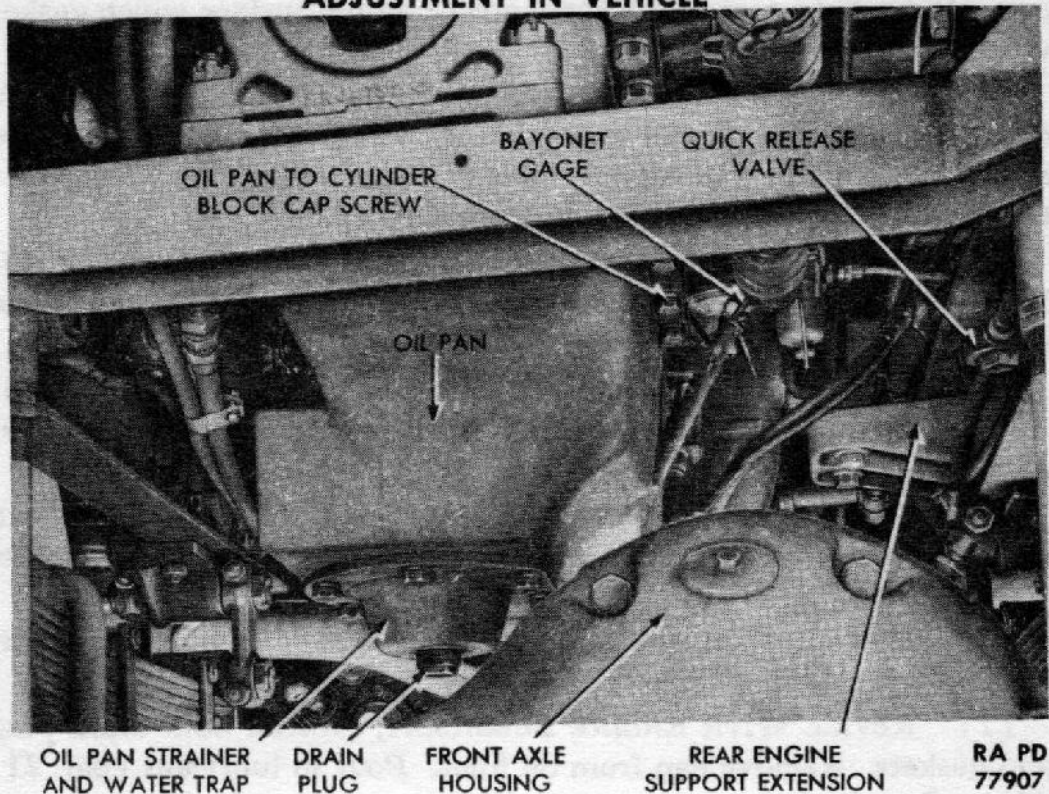
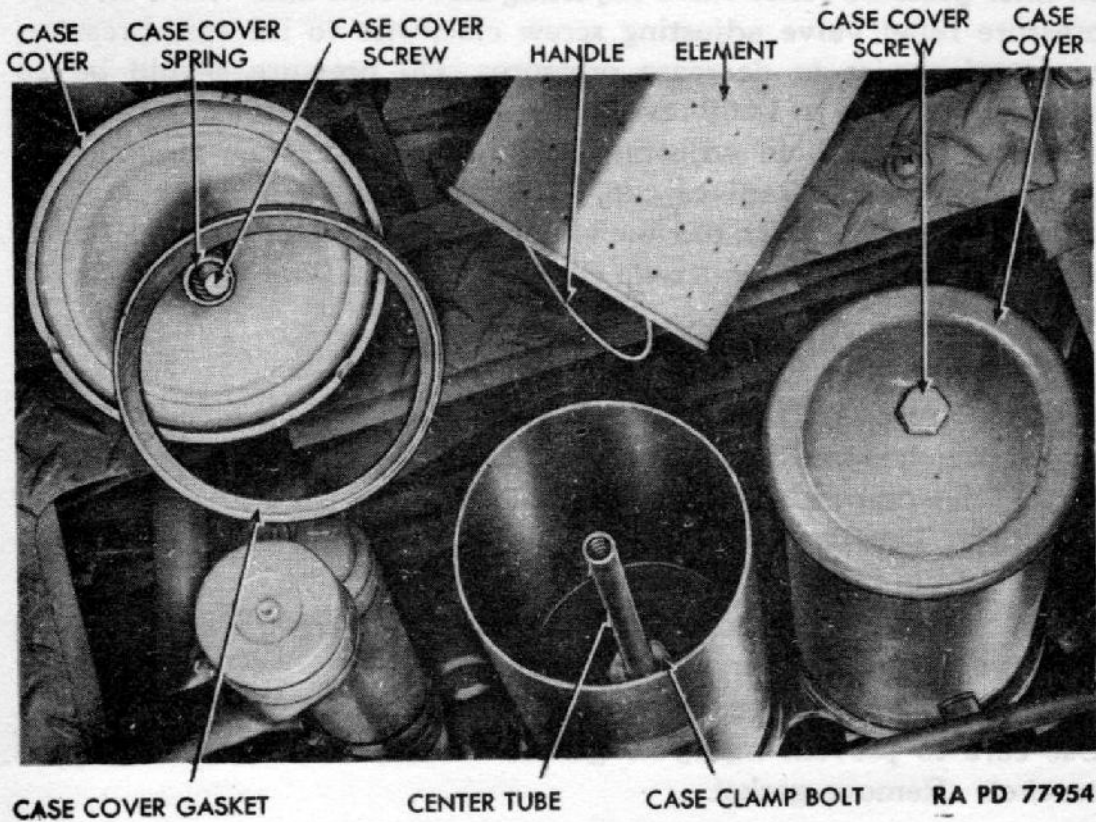
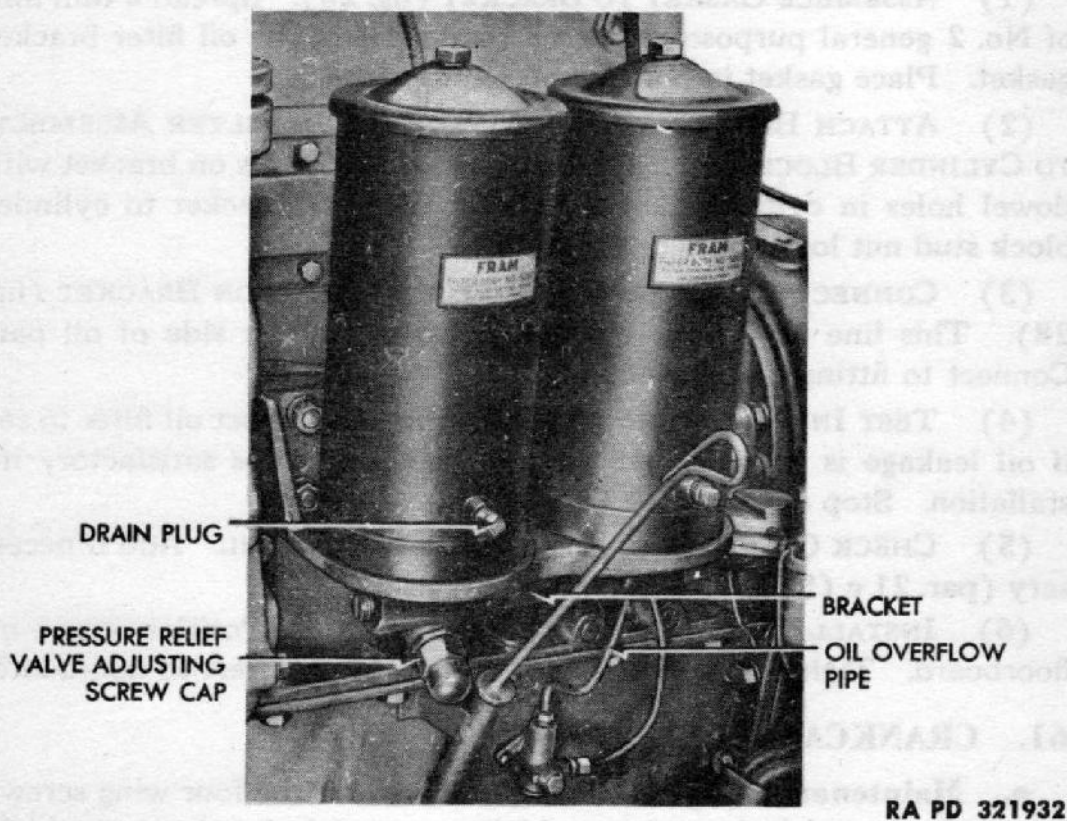
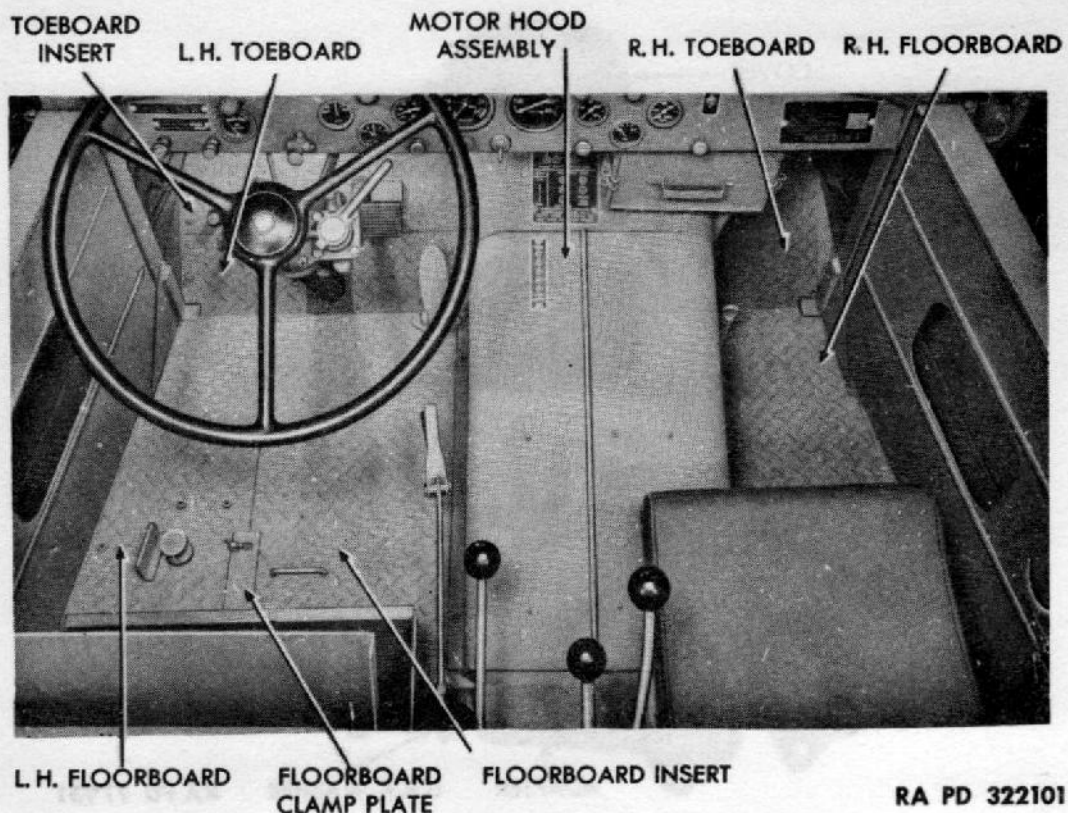

Figure 26 – Oil Pan Installed
Figure 27 – Oil Filters – Top View
Figure 28 – Oil Filters Installed
Figure 30 — Floorboards Installed
(1) **REMOVE ENGINE HOOD** (par. 54 b) (fig. 30).
(2) **REMOVE RIGHT-HAND FLOORBOARD** (fig. 30). Remove the six screws and lock washers which attach floorboard to cab. Lift floorboard from cab.
(7) **INSTALL RIGHT-HAND FLOORBOARD** (fig. 30). Position floorboard in cab, and install the six lock washers and screws.
(8) **INSTALL ENGINE HOOD** (fig. 30). Position hood on floorboards over engine. Install the three flat washers, lock washers, and screws. Engage the two latches.
(1) **DRAIN OIL** (fig. 26). Remove drain plug from center of oil pan strainer and water trap, and remove drain plug from rear of oil pan.
(2) **REMOVE STRAINER AND WATER TRAP** (fig. 26). Remove six cap screws and lock washers. Lift strainer and water trap and its gasket from oil pan.
(4) **CLEAN STRAINER AND WATER TRAP** (fig. 26). Wash the assembly in dry-cleaning solvent. Dry it with a clean cloth.
(5) **INSTALL STRAINER AND WATER TRAP** (fig. 26). Examine the gasket carefully. Replace if torn or crushed. Place serviceable gasket and strainer and water trap assembly in position in oil pan. Install the six lock washers and cap screws.
(6) **REFILL WITH ENGINE LUBRICANT**. Replace both drain plug gaskets and plugs, and refill with engine lubricant (par. 21 c (5)). Replace cap.
(1) **REMOVE BAYONET GAGE.** Remove floorboard insert (fig. 30), and pull bayonet gage (fig. 26) from its box in oil pan.
(2) **DRAIN ENGINE OIL** (fig. 26). Remove two drain plugs and gaskets from oil pan strainer and water trap. Remove drain plug and gasket from rear of oil pan.
(3) **DISCONNECT OIL OVERFLOW PIPE AND VISCOMETER GAGE TUBE** (fig. 28). Lines run from oil filter fitting on left side of oil pan. Screw both from fitting.
(4) **REMOVE SIX OIL PAN TO BELL HOUSING CAP SCREWS AND LOCK WASHERS** (fig. 26).
(5) **REMOVE 26 OIL PAN TO CYLINDER BLOCK CAP SCREWS AND LOCK WASHERS** (fig. 26).
(6) **REMOVE OIL PAN AND GASKETS** (fig. 26). Lower oil pan to floor. Remove the two side gaskets and front cork. Do not damage or attempt to remove cork from bell housing.
(2) **PLACE OIL PAN IN POSITION** (fig. 26). Use care to keep from dislodging gaskets. Install to crankcase two cylinder block cap screws and lock washers. Tighten screws only finger-tight. Their function is to hold oil pan in approximately correct position.
(3) **INSTALL OIL PAN TO BELL HOUSING CAP SCREWS** (fig. 26). Each of the seven screws must have a lock washer. Tighten screws alternately and securely.
(4) **INSTALL OIL PAN TO CYLINDER BLOCK CAP SCREWS** (fig. 26). Each of the 26 screws must have a lock washer. Tighten screws alternately and securely.
(6) **INSTALL BAYONET OIL GAGE** (fig. 26). Insert gage into its boss on left side of oil pan.
(7) **REFILL WITH ENGINE LUBRICANT**. Install both drain plugs and gaskets. Remove cap from oil filler. Pour in lubricant (par. 21 c (5)). Install cap.
(9) **INSTALL FLOORBOARD INSERT** (fig. 30). Position insert on left-hand floorboard, and tighten the two screws which clamp it in place.
a. Filter Elements (fig. 27). Two large filters are secured to a single bracket mounted on the left side of the engine toward the rear. Under normal conditions, replace the two elements at time of oil change. Under extreme dust conditions, replace elements oftener. During desert operation, inspect often, and change elements when grit is found.
(1) **REMOVE OIL FILTER ELEMENT** (fig. 27). Remove floorboard insert (fig. 30). Completely unscrew oil filter case cover screw. Lift cover and gasket from case. Grasp handle on top of oil filter element, and pull element from case.
(2) **INSTALL OIL FILTER ELEMENT** (fig. 27). Insert oil filter element, handle end up, into oil filter case. Place oil filter case cover gasket and cover in position on top of case. Tighten oil filter case cover screw. Check quantity of oil in crankcase, and add if low (par. 21 c (6)). Install floorboard insert.
b. Adjust Oil Pressure (fig. 28). Remove the oil filter pressure relief valve adjusting screw cap (acorn nut) from filter bracket. Loosen
(1) REMOVE FLOORBOARD INSERT (fig. 30). Loosen the two screws which clamp insert in place. Lift insert from floorboard.
(2) DISCONNECT OIL OVERFLOW PIPE FROM OIL FILTER BRACKET (fig. 28). This line runs from bracket to fitting on left side of oil pan. Screw it from fitting on bracket.
(3) REMOVE BRACKET TO CYLINDER BLOCK STUD NUTS (fig. 28). Remove the four nuts and lock washers.
(4) LIFT OIL FILTER ASSEMBLY FROM CYLINDER BLOCK (fig. 28). Use care to prevent injury to gasket. Remove filter with attached bracket. Remove gasket.
(1) ASSEMBLE GASKET TO BRACKET (fig. 28). Spread a thin film of No. 2 general purpose grease on both sides of the oil filter bracket gasket. Place gasket in position on oil filter bracket.